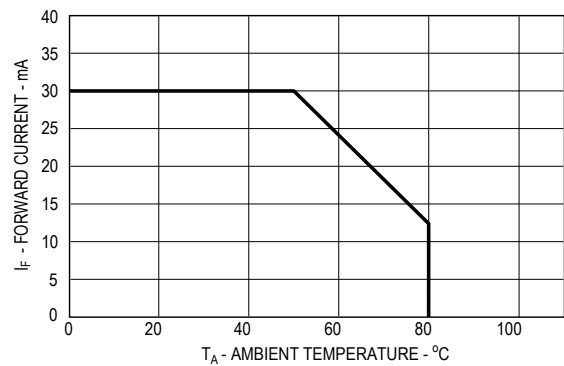

Figure 4. Maximum forward current vs. ambient temperature.
1. Derate linearly as shown in Figure 4 for temperatures above  $50^\circ\text{C}$ .